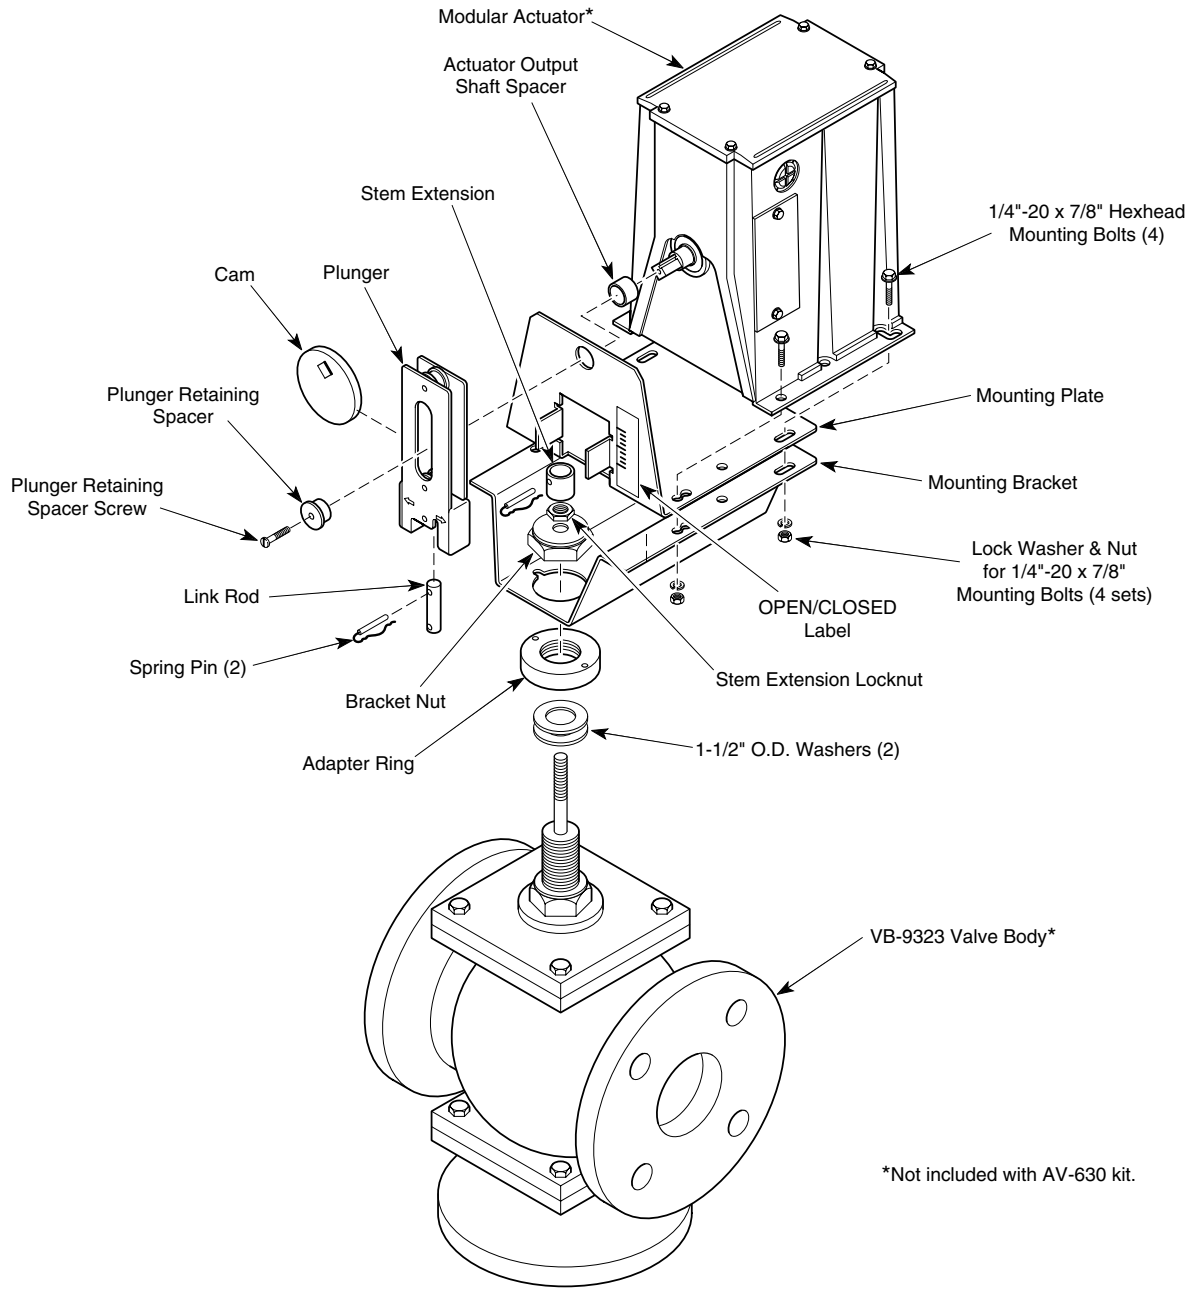
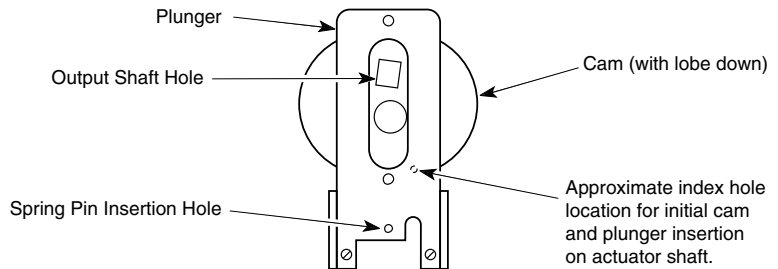

Figure-8 Assembly of AV-630 or AV-630-040 Valve Linkage with VB-9323 Valve Body.
Figure-9 Initial Cam Installation Position for Valves Assembled to the "Load, Normally Closed-CCW Spring Return" or "Load" End of MM-400/500 Series Actuators.
See Table-2, Figure-8, and Figure-9.
7. With the word "POSITION" marked on the bottom of the plunger facing the installer, insert the cam into the plunger *with the cam part number facing the installer*. The cam square shaft hole must be located on the top of the plunger slot and the index hole located as shown in Figure-9.